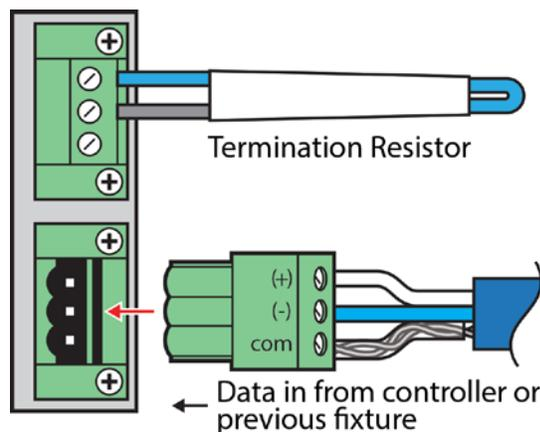

Figure 4. Fixtures come with pre-installed termination resistor. The resistor should remain installed only in the last fixture of each run.
5. Ensure the termination resistor is installed into the last luminaire in each run as shown in Figure 4. **Note:** Remove and discard pre-installed termination resistor from all other fixtures.